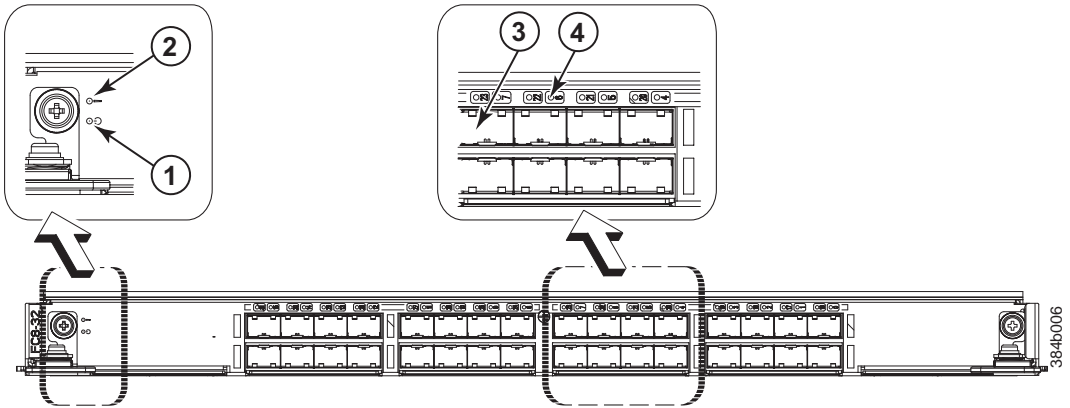

Figure 19. FC8-32 port blade
- Figure 19 on page 46 illustrates the FC8-32 port blade